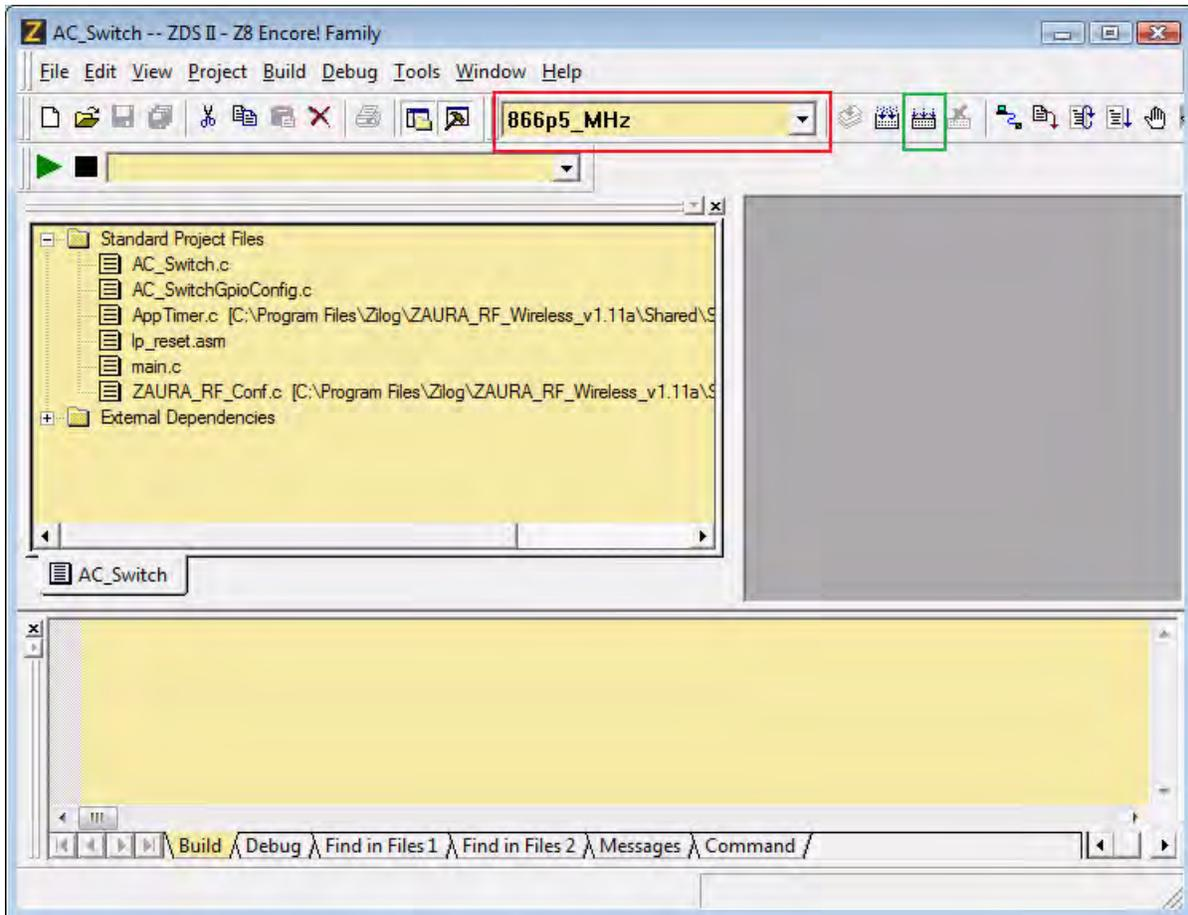

Figure 7. Build Mode Configuration
7. Select the 866p5_MHz build configuration file from the ZDSII toolbar. This menu is highlighted in red in Figure 7.
8. Click the **Rebuild All** toolbar icon, which is highlighted in green in Figure 7.